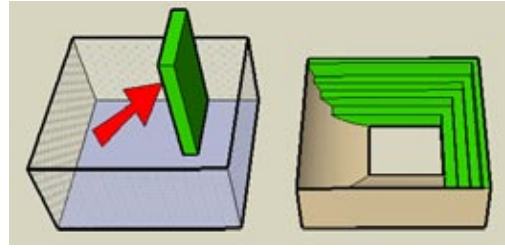

Figure 4-60
15. The hard part is finished, but you can make this model a little more usable. There's no way to get in or out of this park, so an entrance is needed. First, move the ramps and steps out of the group and add a cutting shape inside the group (Figure 4-60).